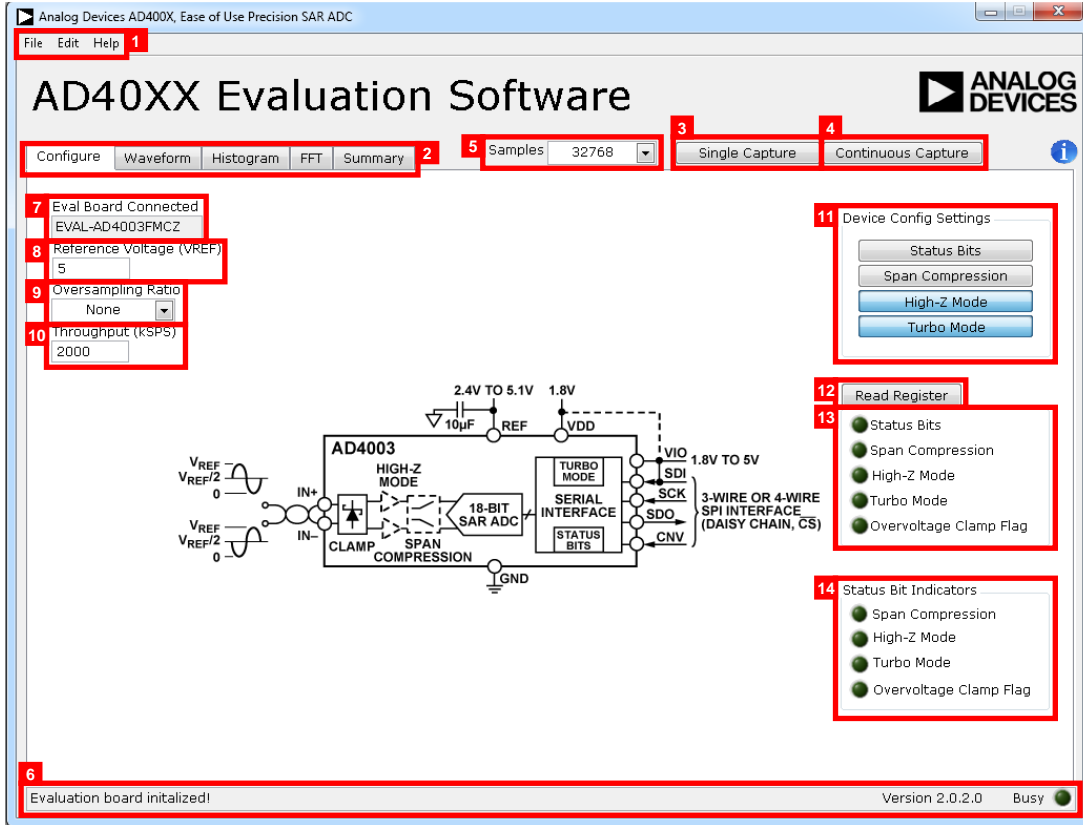
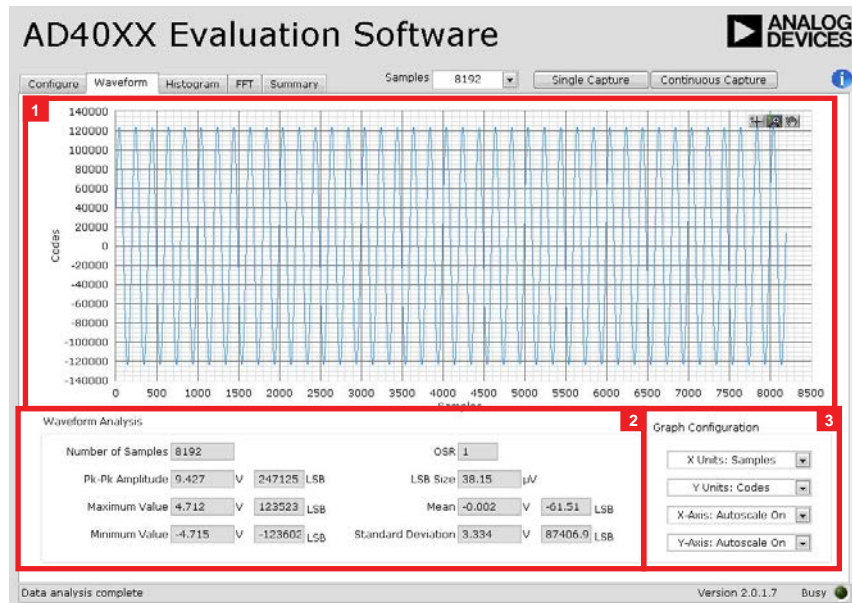

Figure 17. AD40XX Evaluation Software Front Panel (Configure Tab View)
Figure 19. Waveform Tab View
After the AD40XX Evaluation Software Installer initializes, the software front panel appears, and the software automatically connects to any EVAL-AD400x-FMCZ evaluation board connected to the PC. The detected evaluation board is displayed in the **Eval Board Connected** indicator on the front panel (see Label 7 in Figure 17).
The AD40XX Evaluation Software Installer front panel is shown in Figure 17. The following sections describe the various software controls accessible on the front panel.
The **File** menu (Label 1 in Figure 17) provides the following options:
The **Edit** (Label 1 in Figure 17) menu provides the following option:
The **Help** menu (Label 1 in Figure 17) provides the following options:
The following five tabs are located at the top of the front panel (Label 2 in Figure 17): **Configure**, **Waveform**, **Histogram**, **FFT**, and **Summary**. These tabs select various front panel views.
Click **Single Capture** (Label 3 in Figure 17) to perform a single set of conversions. The number of conversions performed is set with the **Samples** dropdown list, which is located to the left of the **Single Capture** control.
Click **Continuous Capture** (Label 4 in Figure 17) to perform repeated sets of conversions. The number of conversions performed per set is set with the **Samples** dropdown list.
The **Samples** dropdown list (Label 5 in Figure 17) sets the number of conversions that are performed when **Single Capture** is clicked. The button also sets the number of conversions per set when **Continuous Capture** is clicked.
The status bar (Label 6 in Figure 17) displays information about the current process being completed by the **AD40XX Evaluation Software Installer**. The **Status Bar** includes a **Busy** indicator, which displays if the software is busy performing a task such as performing conversions, analyzing results, and so on.
Figure 17 shows the **Configure** tab view. The **Configure** tab provides controls for configuring the connected **AD4000** family device and software settings. The **Configure** tab view contains the following controls and indicators:
- **Eval Board Connected** (Label 7 in Figure 17): indicates that the **EVAL-AD400x-FMCZ** board is connected to the software.
- **Reference Voltage (VREF)** (Label 8 in Figure 17): sets the VREF used in data analysis such as when calculating **LSB Size** (see Label 2 in Figure 19), or measured voltage in the waveform graph (see the **Waveform Tab View** section. This control must be set to match the VREF used on the connected **AD4000** family evaluation board.
- **Oversampling Ratio** (Label 9 in Figure 17): sets the oversampling ratio applied to the captured data. After this control is set to any value other than **None**, the software sums up the consecutive conversion results together to increase effective resolution. The number of conversions summed together is set by the **Oversampling Ratio** control.
- **Throughput (kSPS)** (Label 10 in Figure 17): sets the throughput of the connected **AD4000** family device. The maximum value of this control is automatically set to reflect the maximum achievable throughput of the connected device, given the state of the **Status Bits** and **Turbo Mode** controls. See the relevant **AD4000** family device data sheet for more information on maximum achievable throughput.
- **Device Config Settings** (Label 11 in Figure 17): configures the connected **AD4000** family device user configuration register settings. See the relevant **AD4000** family device data sheet for a detailed description of the user configuration register and the device features.
- **Read Register** (Label 12 in Figure 17): reads the **AD4000** family device user register. When **Read Register** is clicked, the contents of the connected **AD4000** family device register are read to update the **Device Config Settings** items accordingly.
- **Device configuration settings display** (Label 13 in Figure 17): displays the status of the user register when **Read Register** is clicked. Each of the following indicators displays the state of the corresponding settings:
- **Status Bits Indicators** (Label 14 in Figure 17): displays the configuration settings of the device as indicated by the status bits. The status bits are enabled with the **Status Bits** control in the **Device Config Settings** pane (Label 11 in Figure 17). The **Status Bits Indicators** are only updated after conversions are performed with the **Single Capture** or **Continuous Capture** controls when the status bits are enabled on the connected AD4000 family device. The
Figure 19 shows the **Waveform** tab view. The **Waveform** tab view shows the time domain representation of the conversion results from the connected **AD4000** family device, as well as several analysis items. The **Waveform** tab view contains the following controls and indicators:
- **Waveform graph** (Label 1 in Figure 19): displays the time domain plot of the most recently captured or loaded conversion results. The scale and range of the waveform graph can be set in the **Waveform Analysis** box by double clicking on the **Minimum Value** and **Maximum Value** fields and entering the desired values. The waveform graph also includes viewing tools that are described in Table 5.
- **Waveform Analysis** (Label 2 in Figure 19): shows the following analysis items for the currently displayed data.
- **Graph Configuration** pane (Label 3 in Figure 19): sets the following waveform graph axis properties.
- **Bin Width**: displays the size of the frequency bins in the FFT graph x-axis. The bin width is a function of both the **Throughput (kSPS)** control (Label 10 in Figure 17) and the number of samples in the captured data.